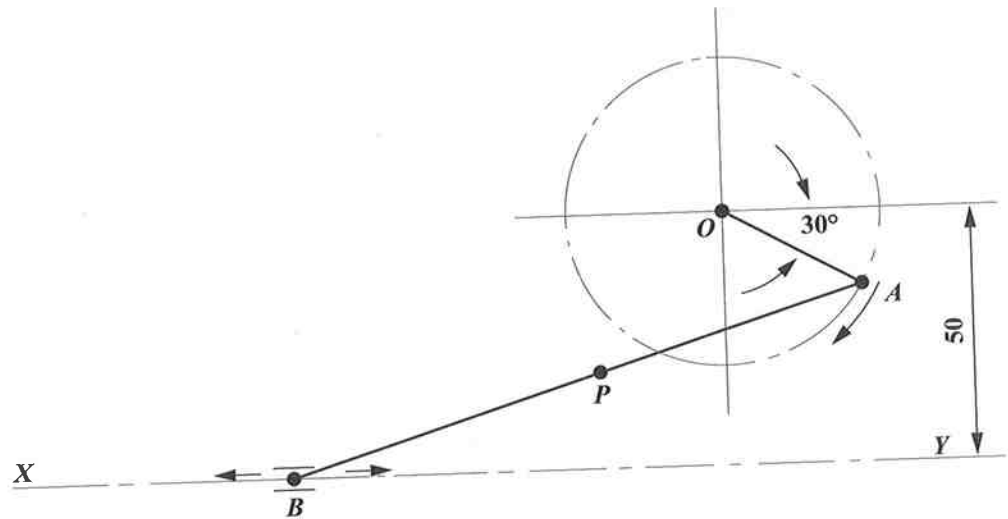

Figure 3
4. **Figure 3** shows a crank mechanism in which OA revolves clockwise about O. The end, B, of the rod AB is constrained to move horizontally along XY.